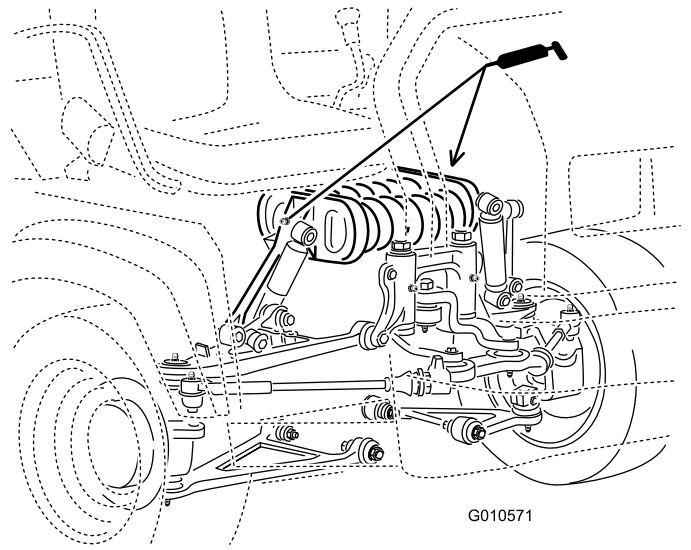

Figure 37
- Spring tower (2) (Figure 37)